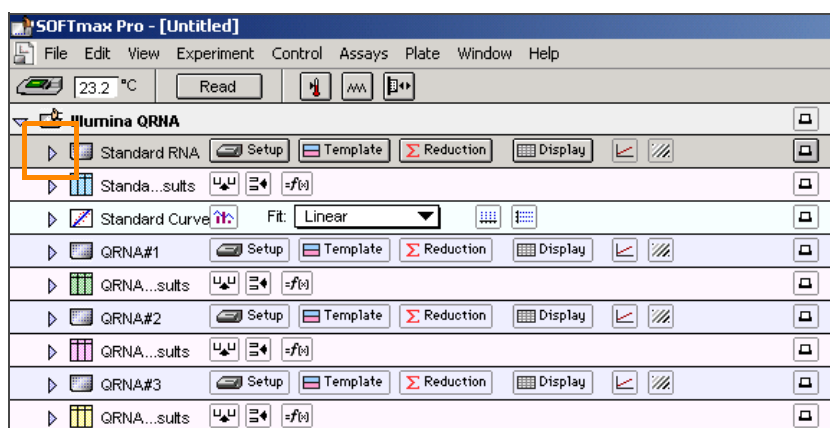

Figure 17 Select the Lambda Standard Screen
5. Click the blue arrow next to **Lambda Standard** (Figure 17).